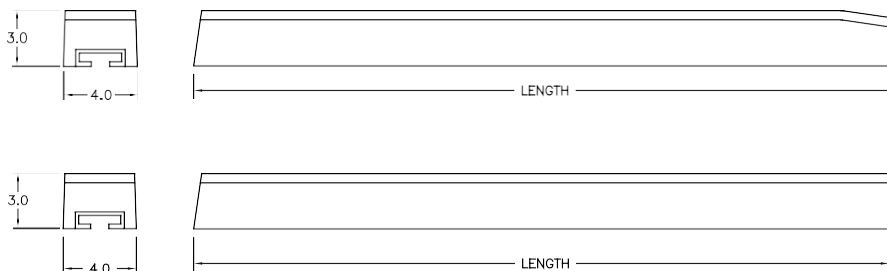

FIGURE 11
3. Some Slider Rails will have an angled surface at one edge, see figure 11. This angled surface normally has the belt coming onto this surface. However, since the Trougher Impact System has Lift Rolls, this is not necessary, as the Lift Rolls will lift the belt onto the slider rails to help minimize the wear to the leading edge. Therefore, the angled surface can be used on the leading or trailing edge, assuming that the Lift Rolls are properly maintained.